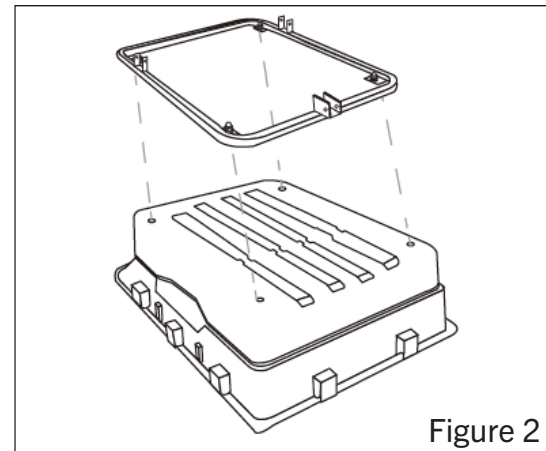

Figure 2
2. Set the main frame upside down on top of the trailer tub. Align the mounting holes in the frame tabs with the mounting holes in the trailer tub. Be sure the front of the frame and front of the trailer tub face the same direction (the front of the trailer frame contains the locking bracket). **FIGURE 2**
3. Place a carriage bolt plate onto a 1 1/2" carriage bolt. From inside the trailer tub, insert the carriage bolt through the aligned holes. Secure with a flat washer, lock washer, and hex nut. Repeat for the remaining three mounting holes. **FIGURE 2**